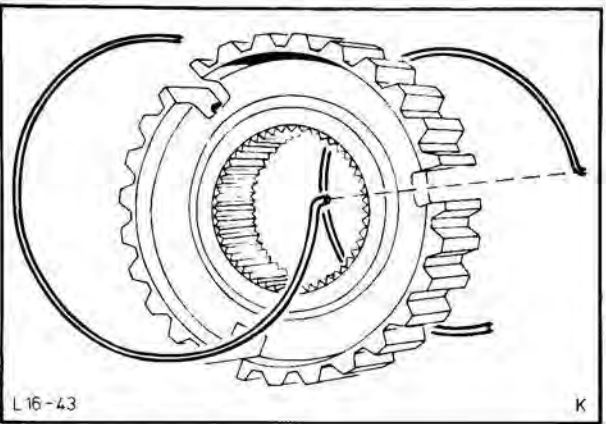

Fig. 42. Insert synchroniser springs
- Reassemble 1st/2nd gear synchroniser hub: insert blocker bars and fit synchroniser springs staggered with their opposite ends in the same blocker bar, Fig. 42.